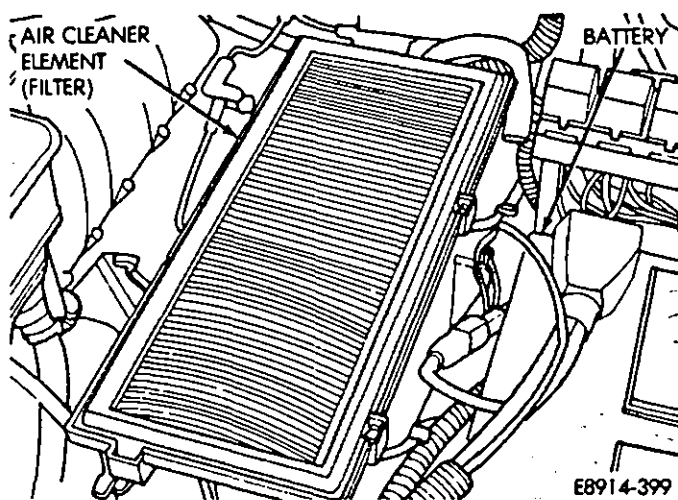

Fig. 22—Air Cleaner Element (Filter)
(5) Inspect the air cleaner element (filter) for blockage or clogging (Fig. 22).